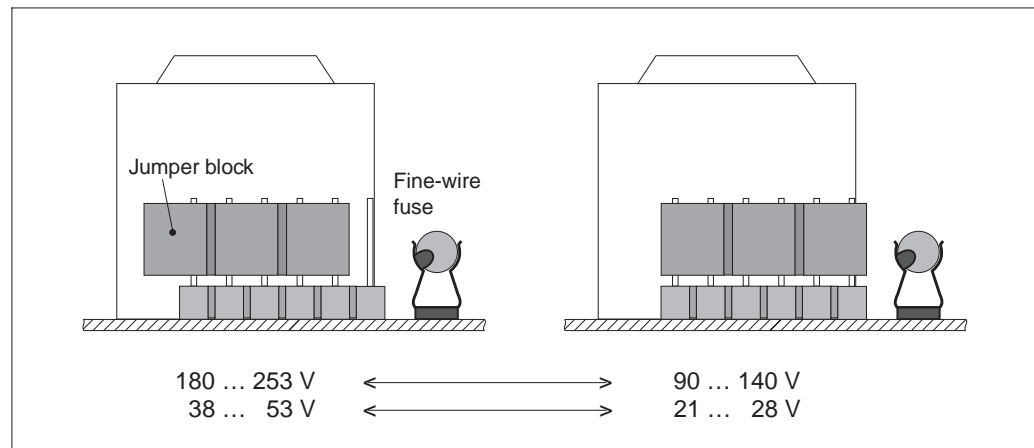

Fig. 18
See Fig 18.
- Remove the green jumper block from the six-pin plug and press it fully down onto the plug as shown in Fig. 18.